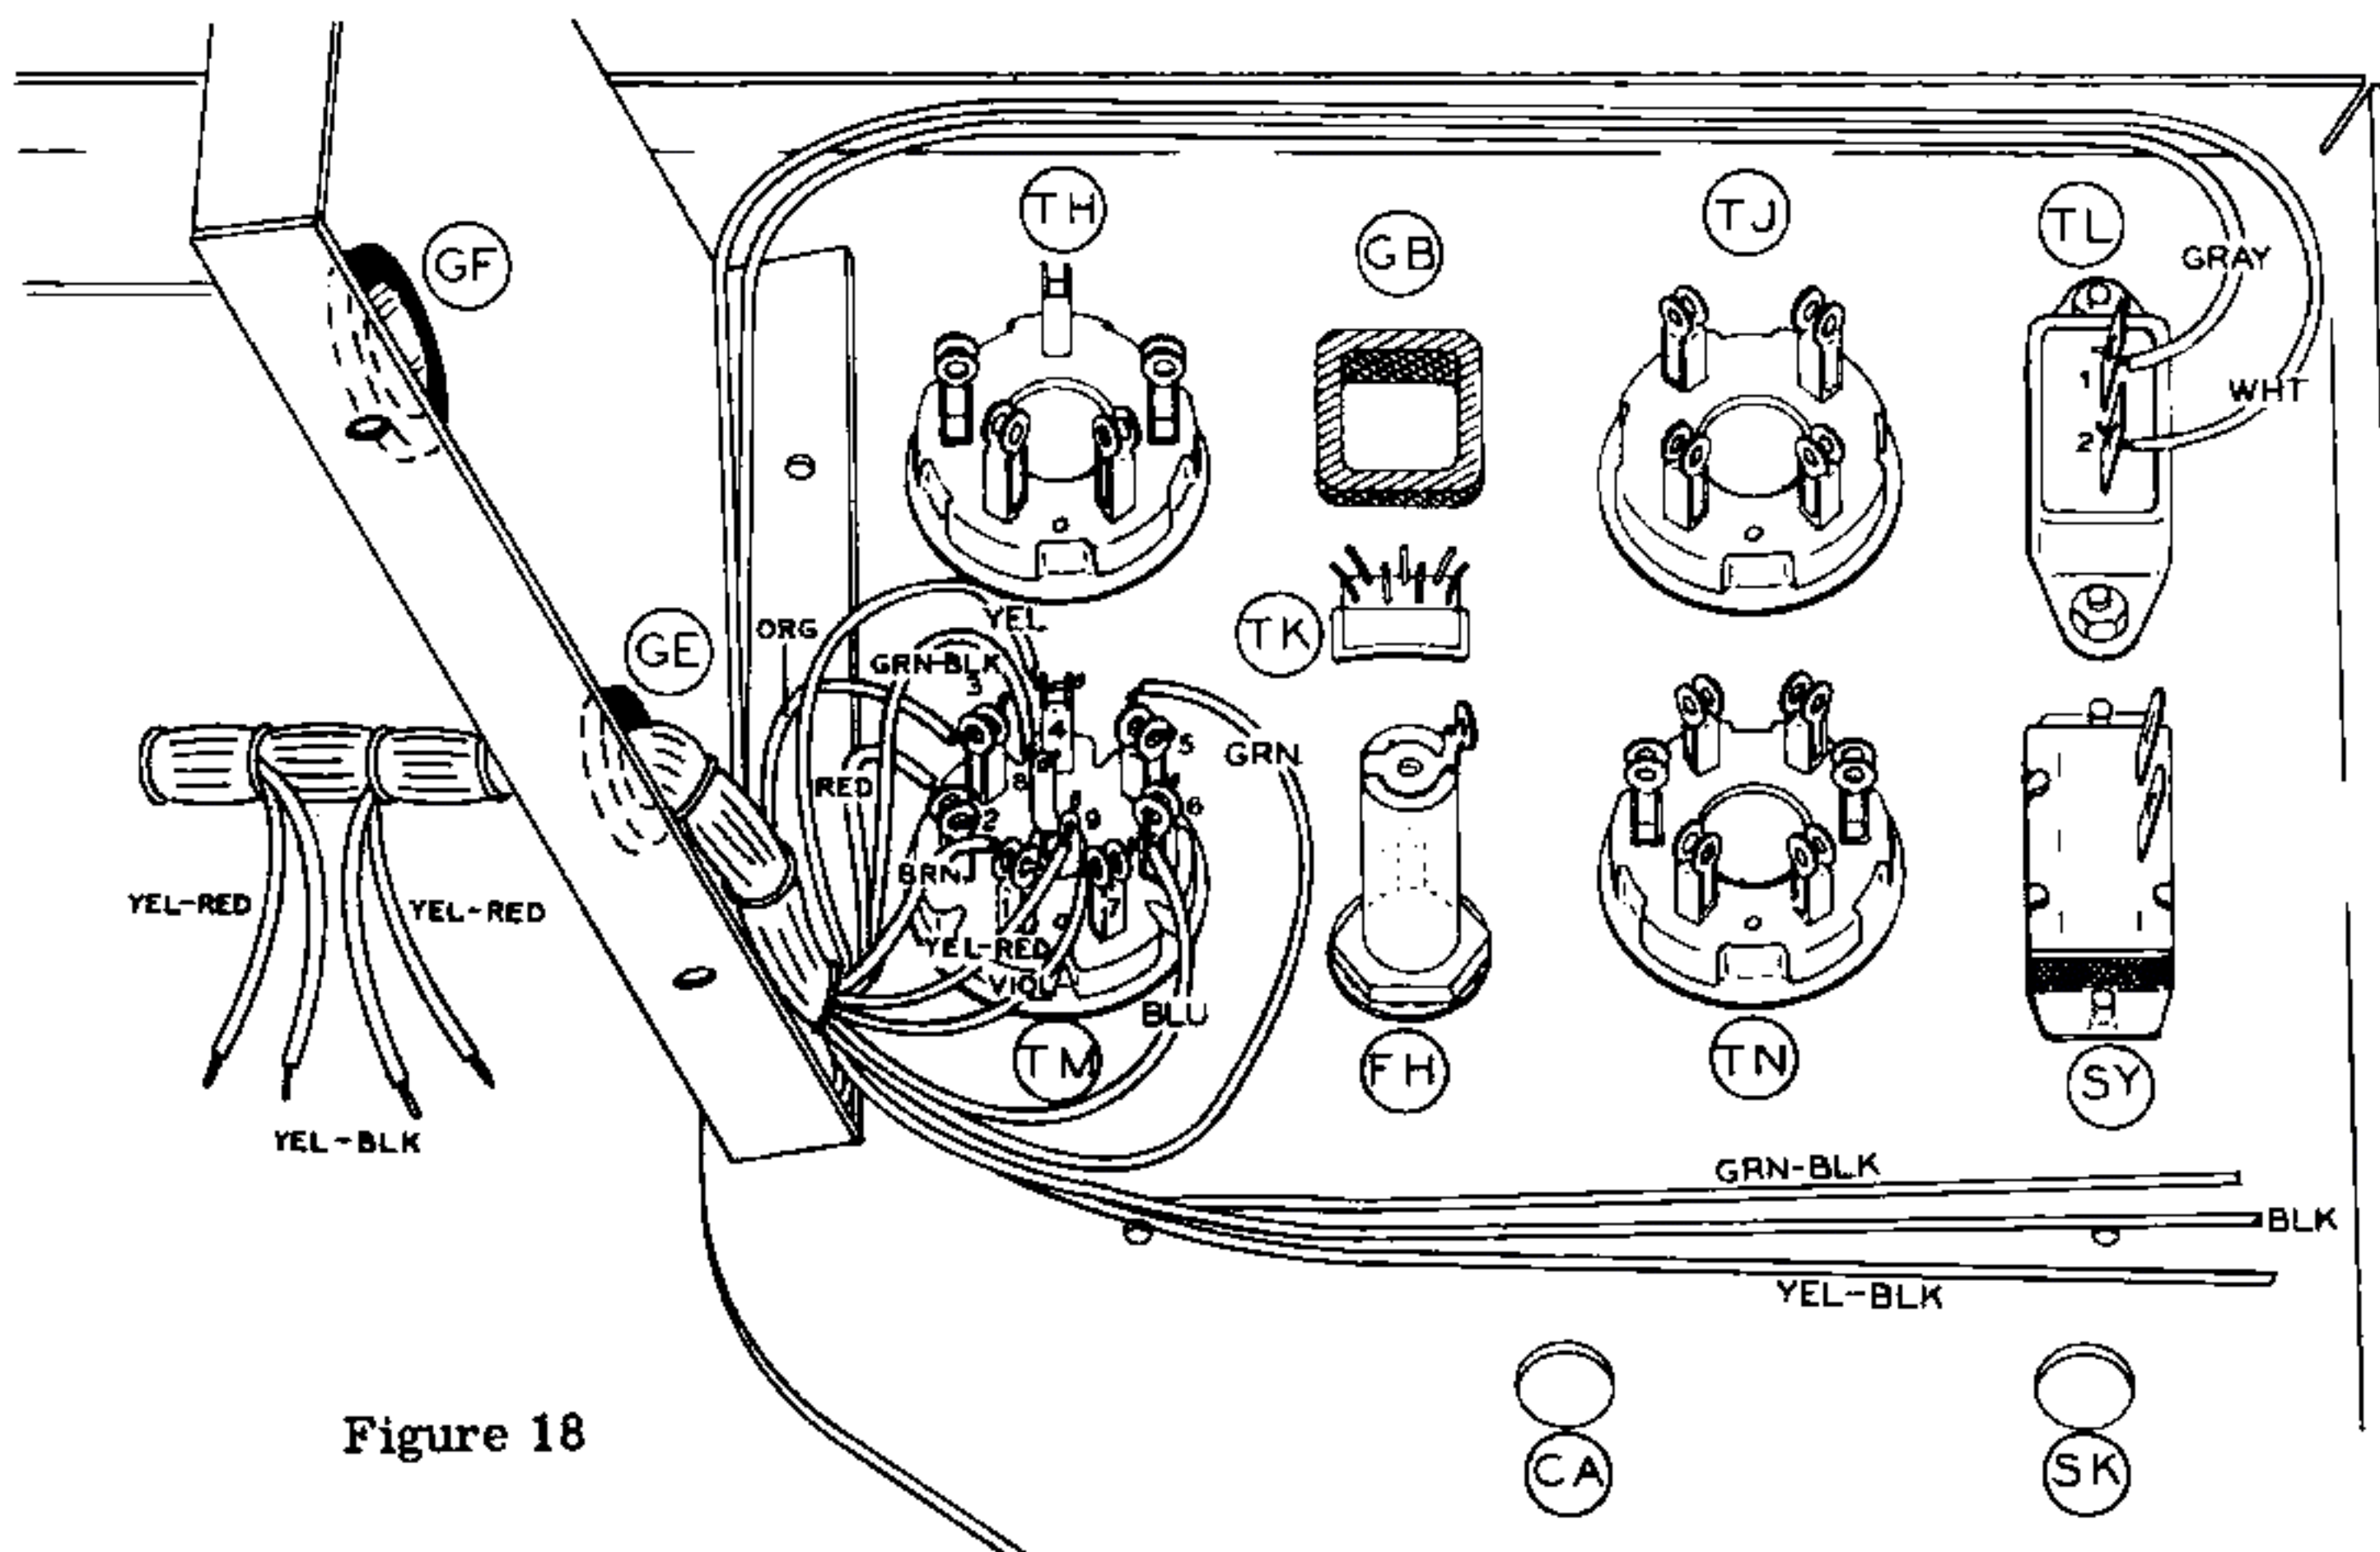

Figure 18
- ( ) Select the two panel support brackets and install the grommets at GC, GD, GE and GF. See Figures 18 and 19.